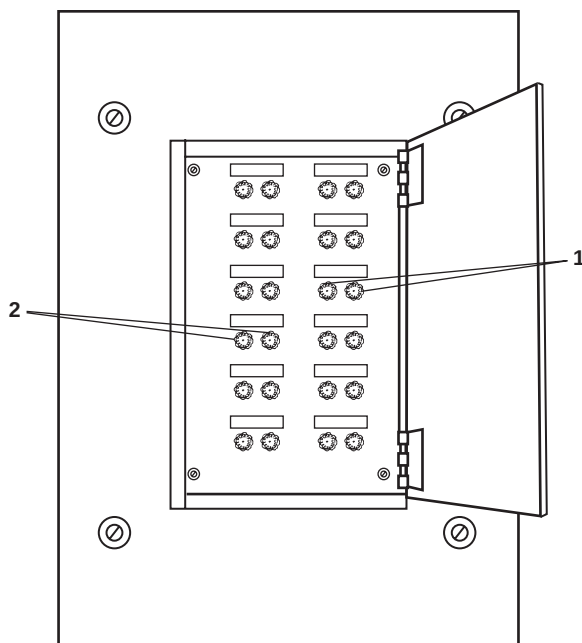

Figure 3. 01 & 02 Level Reheater 120V Fuse Box No. 1
1. At 01 & 02 level reheater 120V fuse box No. 1, remove the PORT BRIDGE WING CONSOLE HEATER. fuses (figure 3, item 1) and STARBOARD BRIDGE WING CONSOLE HEATER. fuses (figure 3, item 2). Lock out and tag out (FM 55-502).